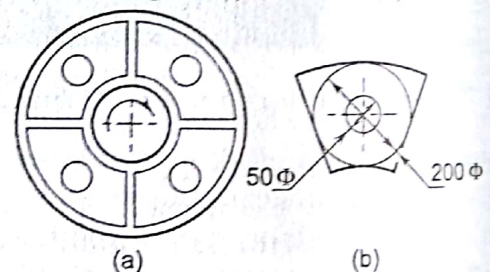

Fig. 16.36
- 16.3 ③ A hydrostatic thrust bearing consists of four pads as shown in Fig. 16.36(a). Neglecting the flow over corners, each pad can be approximated as a circular area of outer and inner diameters of 200 mm and 50 mm respectively, as shown in Fig. 16.36 (b). The thrust load is 300 kN and the film thickness 0.1 mm. The viscosity and specific gravity of the lubricating oil are 250 SUS and 0.88, respectively. Calculate the supply pressure and flow requirement. [LO 3]